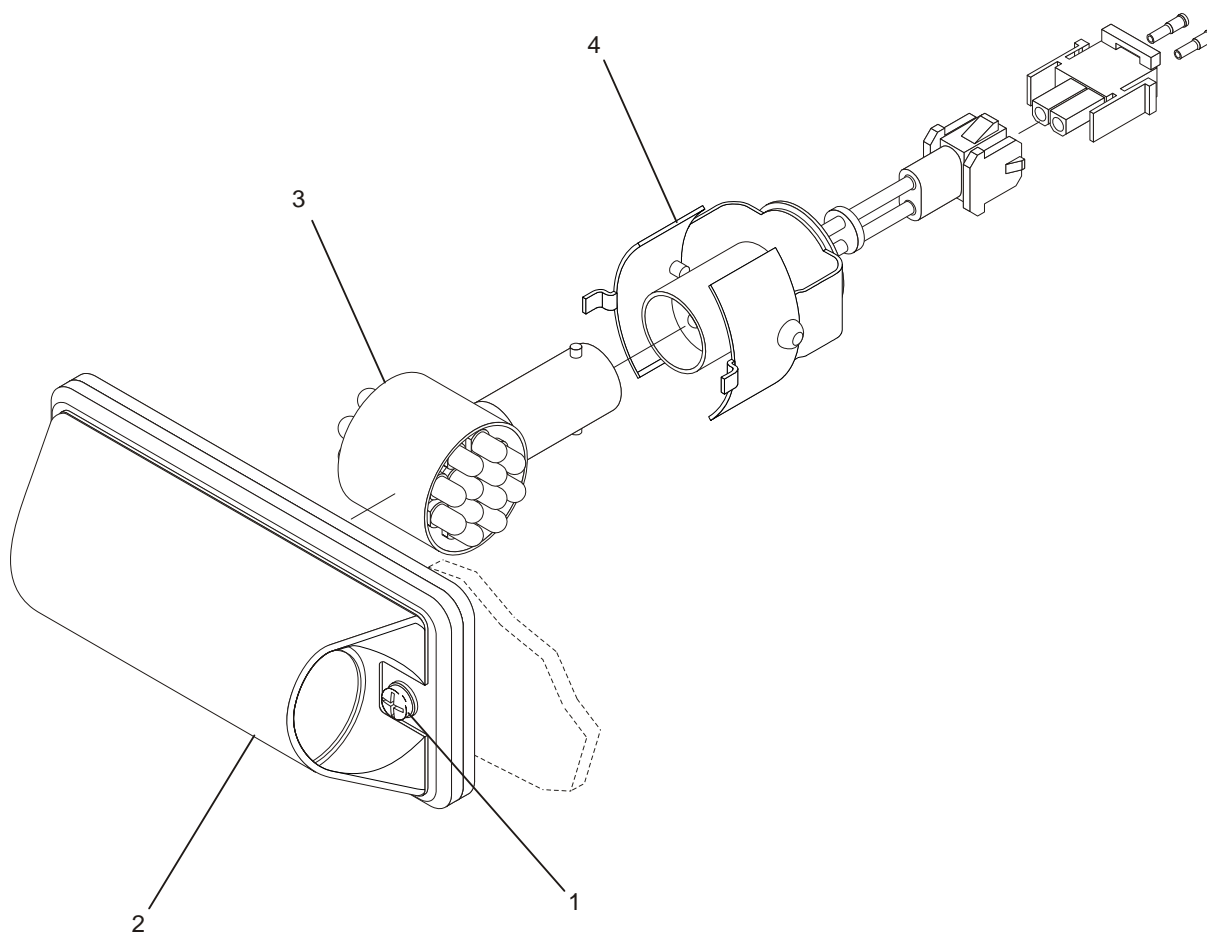

Figure 7-12: Replace Door Open Indicator
2. Remove two cross recessed screws (1, Figure 7-12) from the housing (2).
3. Push down on the lamp unit (3) gently and rotate the lamp unit one-quarter turn to the left.
4. Remove the defective lamp unit from the socket assembly (4).
5. Install a replacement lamp unit (3) by inserting it into the socket assembly (4) and pushing down on it gently while rotating one-quarter turn to the right.
6. Replace the housing (2) using two cross recessed screws (1).